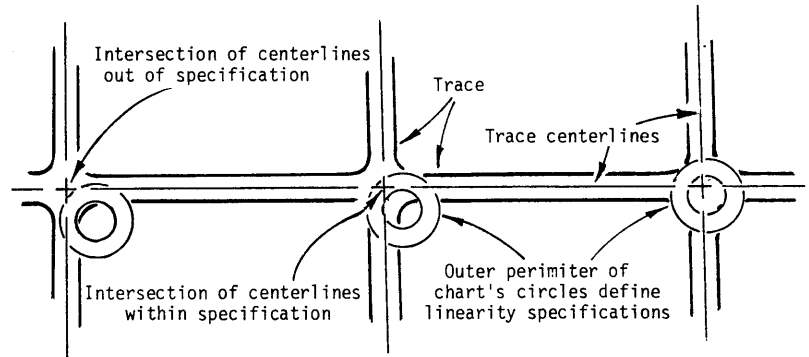

Figure 3. Correct method for interpreting CRT scale.
Change Figure 3, Line 8020 to read-
B. Check that the intersections of the horizontal and vertical trace centerlines fall within the outer diameters of the scale's circles. An example is shown in Figure 3.